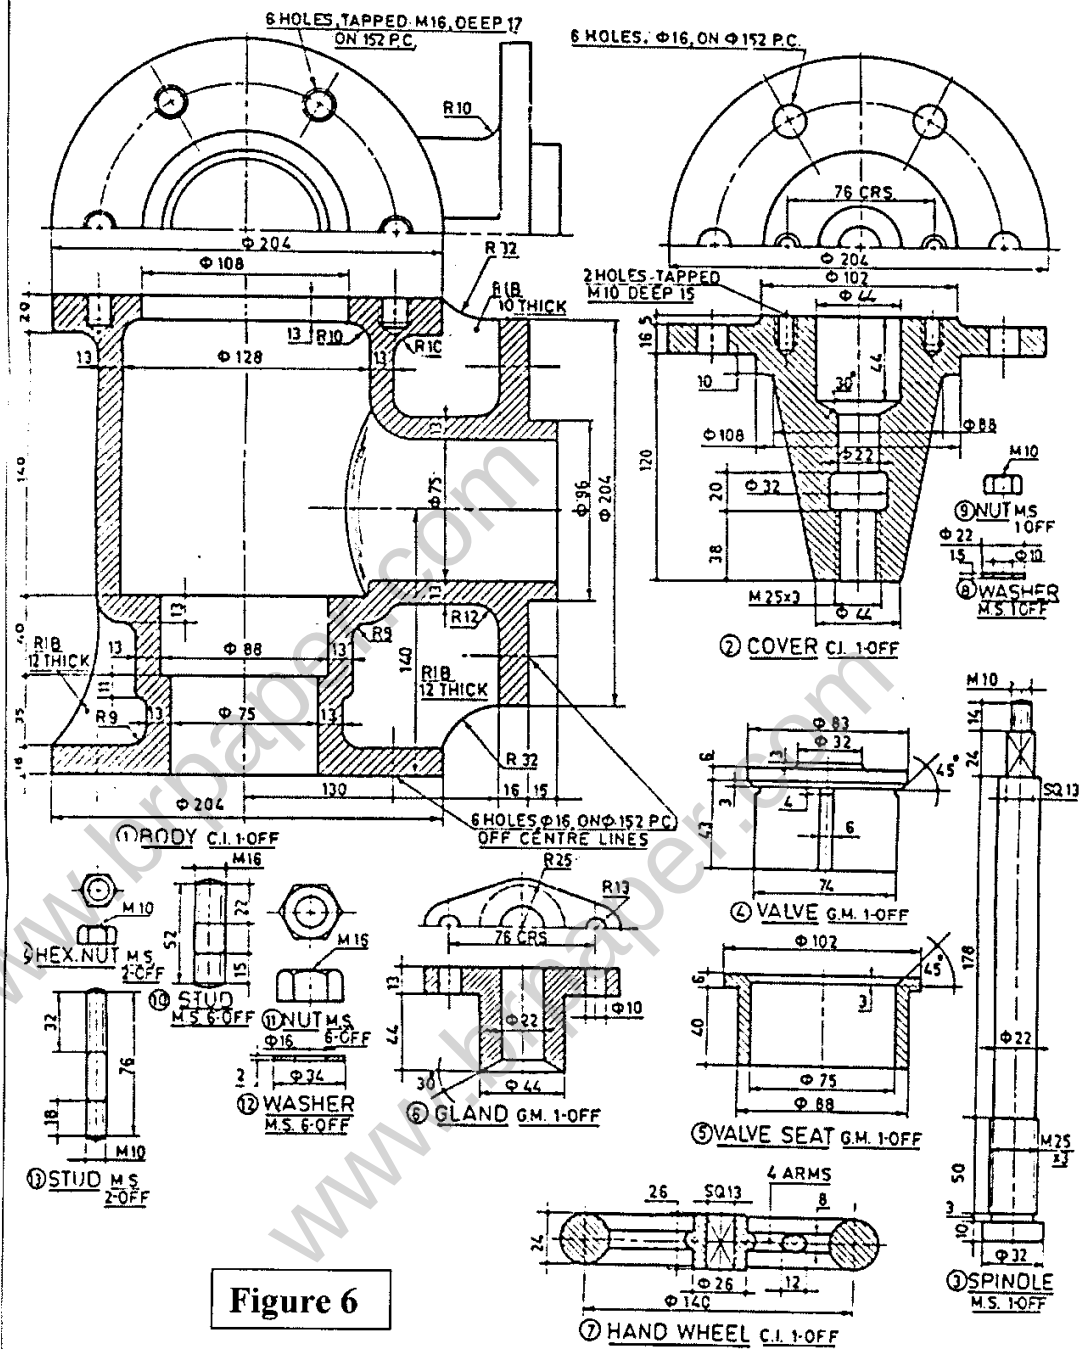

Figure 6
- Q9)** Figure 6 shows the details of 75 mm steam stop valve. Assemble the given components and draw the full sectional front view of assembly.